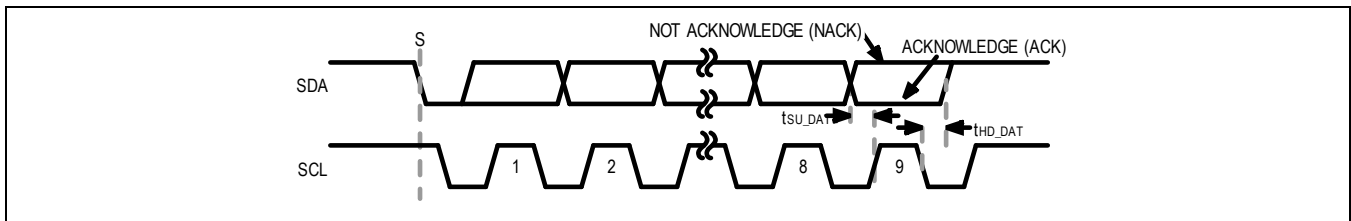

Figure 28. Acknowledge Bit
Both the I²C bus master and slave devices generate acknowledge bits when receiving data. The acknowledge bit is the last bit of each ninth-bit data packet. To generate an acknowledge (A), the receiving device must pull SDA low before the rising edge of the acknowledge-related clock pulse (ninth pulse) and keep it low during the high period of the clock pulse. See Figure 28. To generate a not-acknowledge (nA), the receiving device allows SDA to be pulled high before the rising edge of the acknowledge-related clock pulse and leaves it high during the high period of the clock pulse.